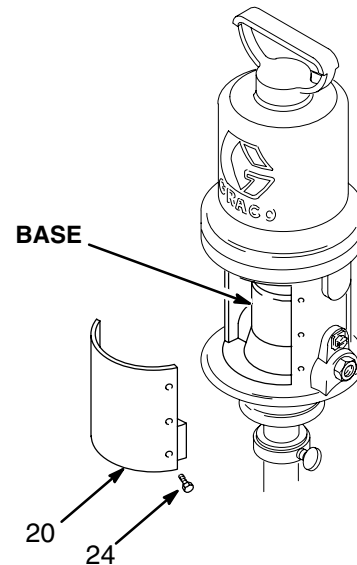

Fig. 4
2. Using a 1/4" nut driver, remove the six screws (24) from one of the muffler plates (20 or 40) and remove the muffler plate. See Fig. 4.
5. Replace the muffler cover, and the six screws. See Fig. 4.